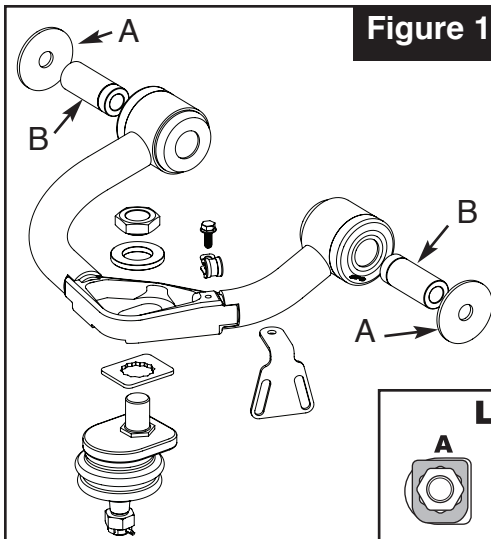

Figure 1
6. Using supplied grease only, liberally coat the inside of all four SpecRide control arm bushings, making sure all small voids are filled with grease. Press a pivot sleeve (#B-Figure 1) into each bushing until it is flush with outside of bushing. This will push some grease out, which is normal. Use this grease to lightly coat outboard ends of SpecRide™ bushings where they will contact included large washers. (#A-Figure 1).